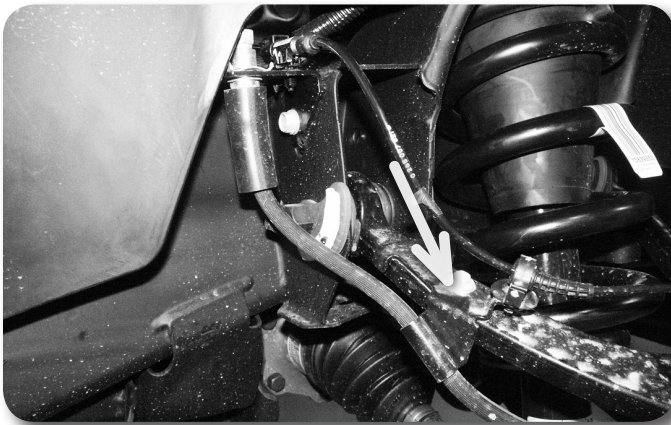

Figure 1
4. Disconnect the ABS line from the connector on the frame **Figure 1**. Remove the ABS line from the retaining clips at the frame, upper control arm and knuckle.
5. Disconnect the brake line bracket from the upper control arm **Figure 1**. Save bolt.